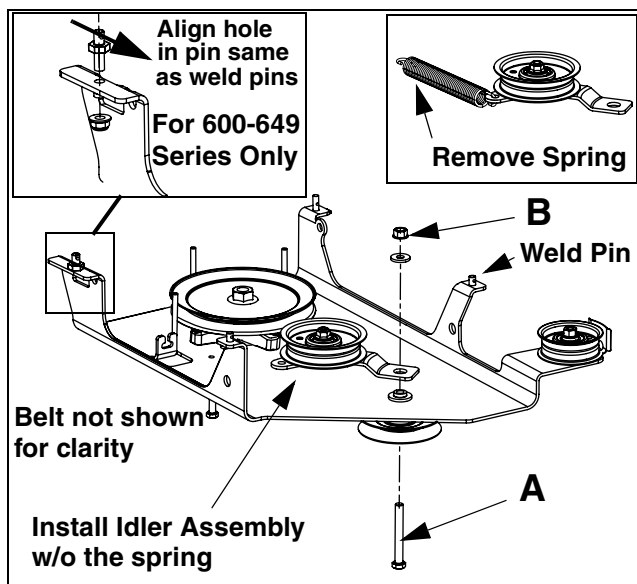

FIGURE 4
11. Locate the idler assembly with extension spring packed separately with the 823 accessory. See Figure 4 inset.
12. Remove the extension spring from the idler assembly and mount the idler assembly as shown in Figure 4. Tighten bolt "A" and nut "B". Ensure the idler pivots freely.
14. From the 753-05097 Service Kit contents locate and install the Threaded Pin, Item 14, and Flange Lock Nut, Item 6, onto the new Undercarriage Bracket Assembly, Item 1, as shown in Figure 4 Inset. Proceed to Step 16.